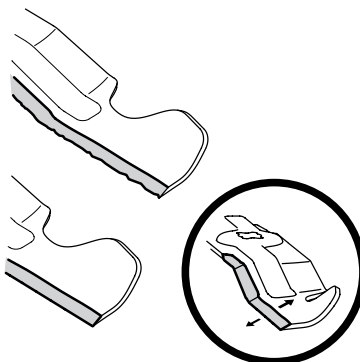

Figure 4-9
5. To properly sharpen the cutting blade, remove equal amounts of metal from both ends of the blade along the cutting edges, parallel to the trailing edge, at a 25° to 30° angle. Always grind each cutting blade edge equally to maintain proper blade balance. See Figure 4-9.